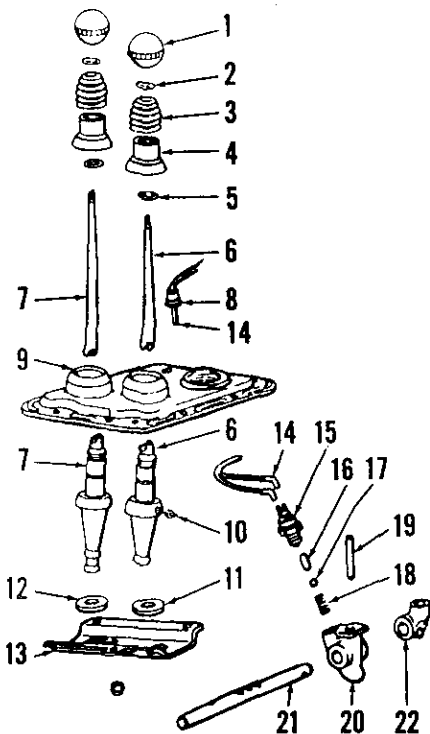
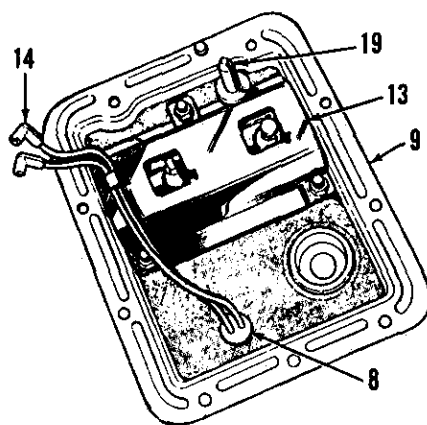

Fig. 186—Exploded view of shift cover and associated parts used on six speed transmission.
Fig. 189—Assembled view of transmission top cover as viewed from bottom. Refer to Fig. 186 for parts identification.
Fig. 188—Installed view of safety switch, shift rails and associated parts. Positioning dowel (19) is pressed into top cover and enters locating hole in retainer (20). Refer to Fig. 186 for parts identification and to Fig. 189 for assembled view of cover.